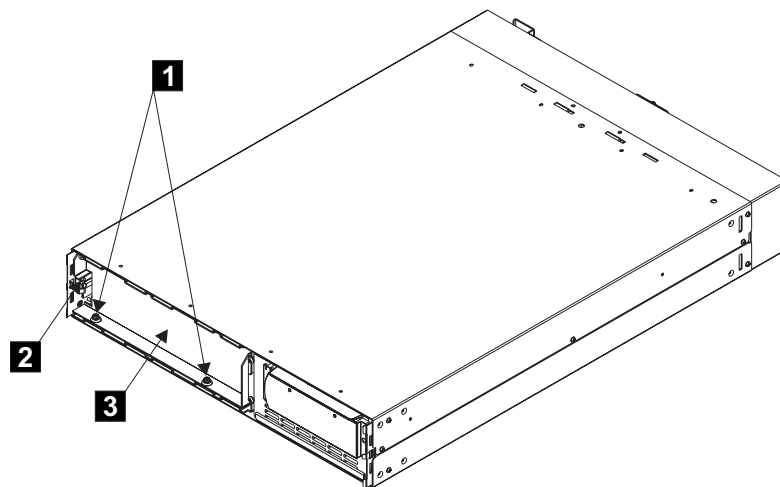

Figure 28. Removing the battery retaining bracket
- c. Remove the two bolts **1** and additional nut **2** on the left side of the bracket, as seen in Figure 28. Next, remove the battery retaining bracket **3**.